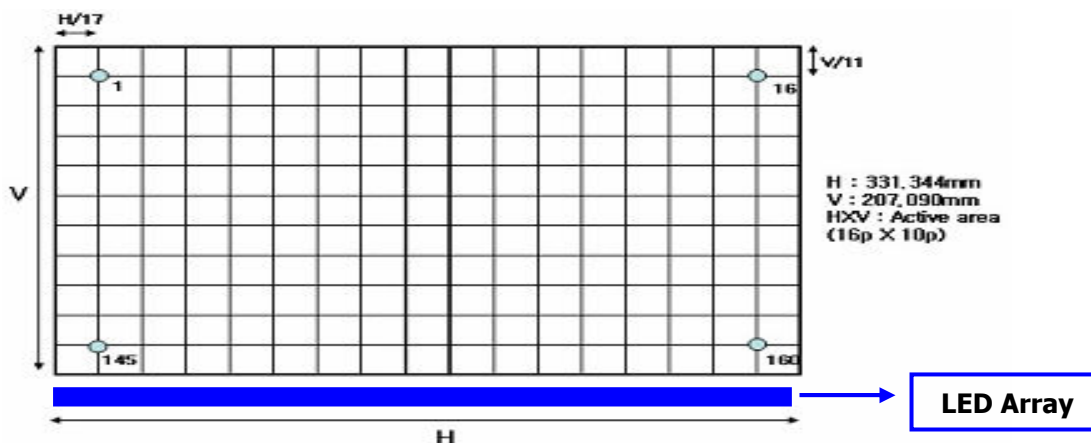

FIG. 3 Response Time
2. Response time is the time required for the display to transition from white to black (rise time,  $T_{R}$ ) and from black to white(Decay Time,  $T_{D}$ ). For additional information see FIG 3.